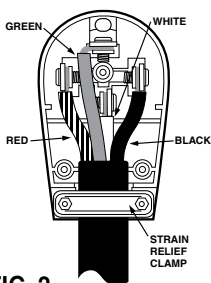

FIG. 2
4. Insert stripped end of wire between the blade and the clamp as shown in Fig. 2 above. As each wire is placed into position, tighten the screw against clamp to secure the wire. Make sure that all individual copper strands of each wire are under the correct clamp (twist strands together if needed). Start with the white wire first.